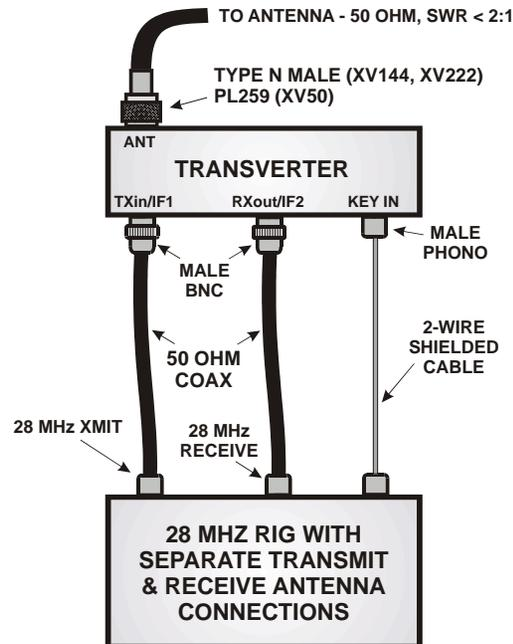

Figure 3. Connecting the Transverter to a Non-Elecraft 28-MHz Rig with Separate Transmit and Receive RF Paths.
- Connect the cables as shown in Figure 3.